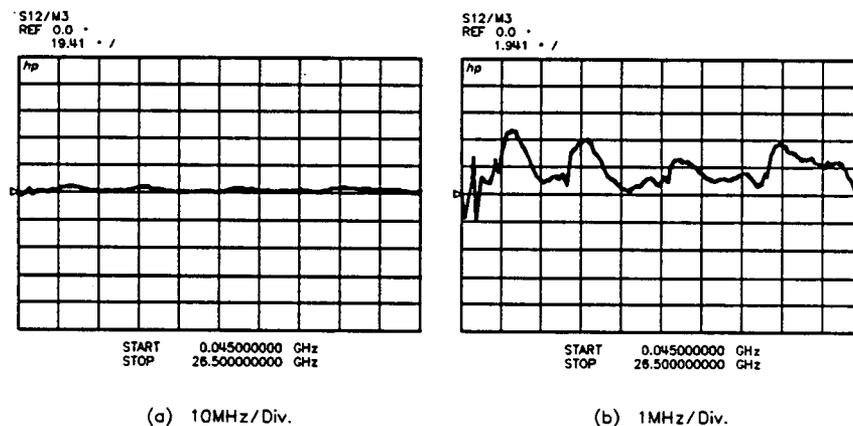

Figure 2-4. Bandswitch Transition Location
22. Figure 2-4 shows a typical response at two scale sensitivities. Locate the portion of the trace farthest from the center reference graticule. This is the worst-case swept frequency accuracy. Record this value in the performance